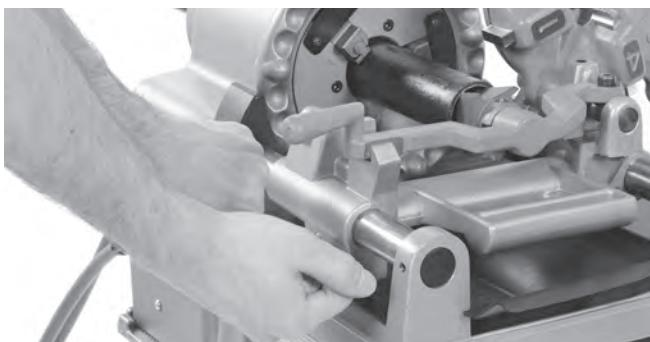

Figure 12 – Reaming with 344 Reamer
2. Move the ON/OFF (I/O) switch to the ON (I) position.
3. With both hands, grasp the carriage handwheel. See *Figure 12*.